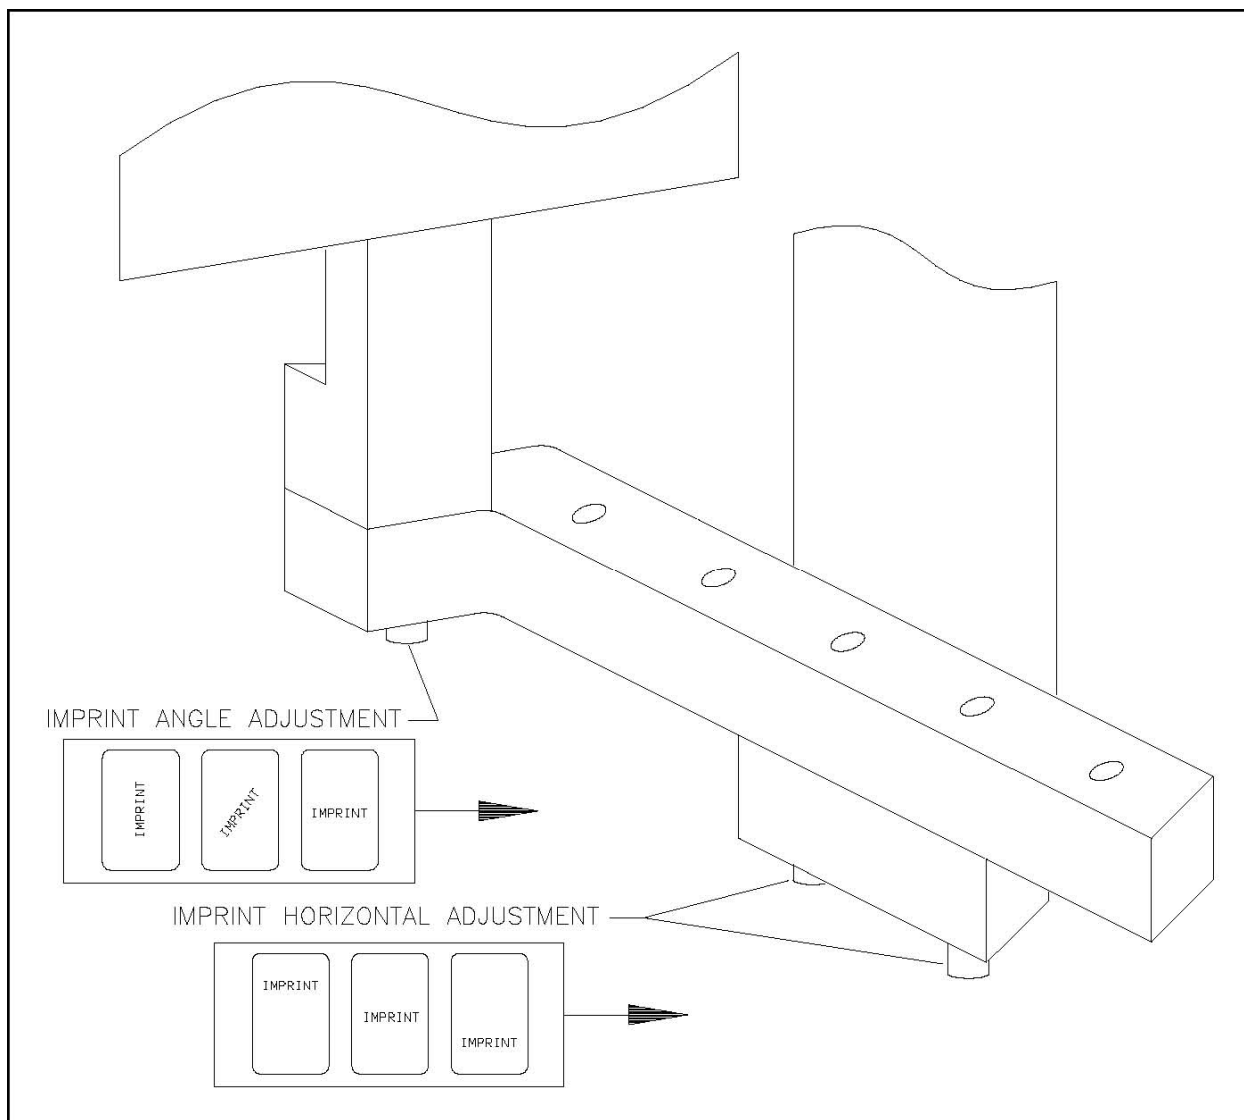

Figure 54 Imprinter Adjustment Brackets
3. Adjust the position of the imprint across the web by moving the position of the entire imprinter. See Figure 54.